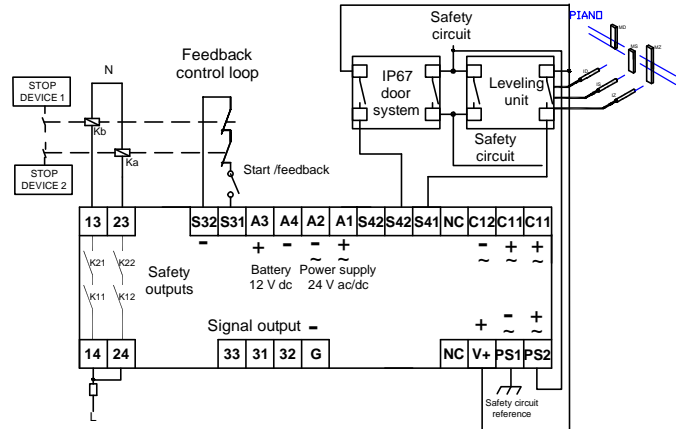

FIG. 3 Mode independent inputs with Safety doors Stem IP67
**Mode independent inputs with Safety doors Stem IP67** (Fig. 3): the system must be equipped with a safety leveling with 2 output contacts (NC80, NC96 lift) and the second safety contact is provided by the safety door system IP67. The contacts must be connected to the inputs S42 and S41, respectively.